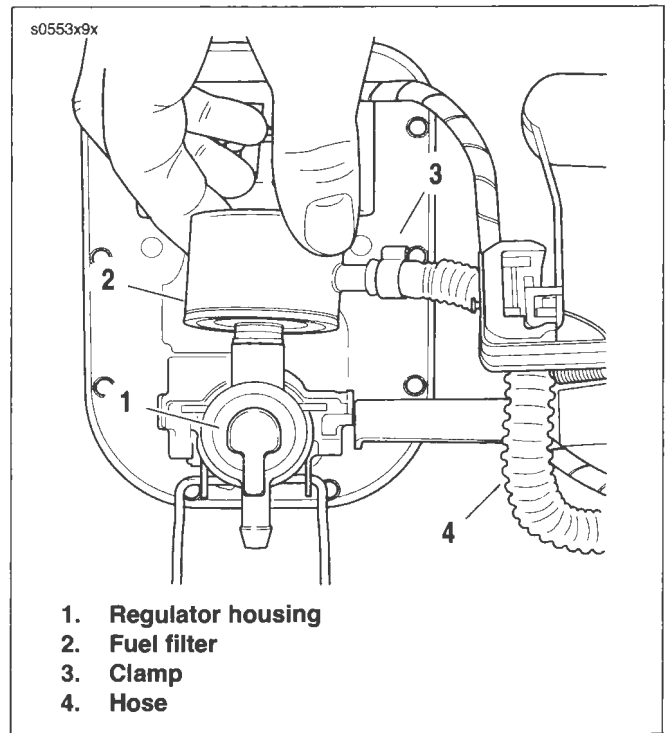

Figure 4-44. Fuel Filter
3. See Figure 4-44. Remove fuel filter (2) from regulator housing (1).
4. Cut hose clamp (3) and remove hose (4) from fuel filter. Exercise caution to avoid cutting or damaging hose. Discard fuel filter.
6. See Figure 4-44. Insert filter into fuel pressure regulator housing, so that inlet port is on fuel pump side.